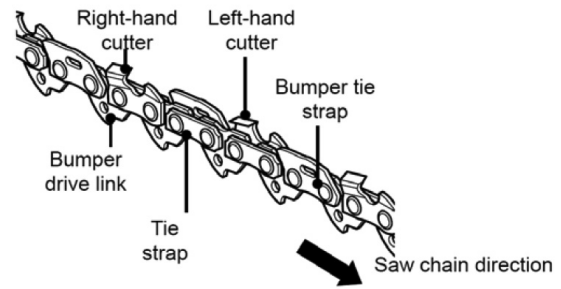

Figure 18
1. Ensure the chain is correctly tensioned. See Figure 18, right.